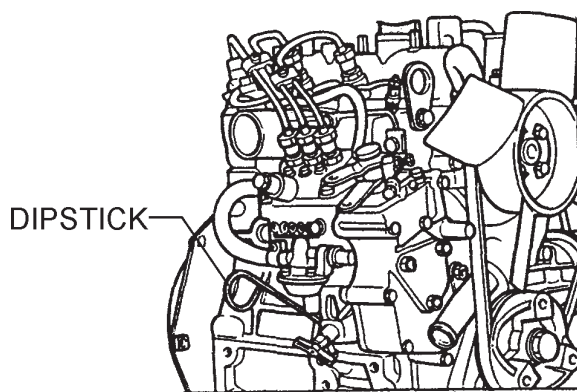

Figure 8. Engine Oil Dipstick (Removal)
2. Remove the dipstick (Figure 8) and wipe clean.